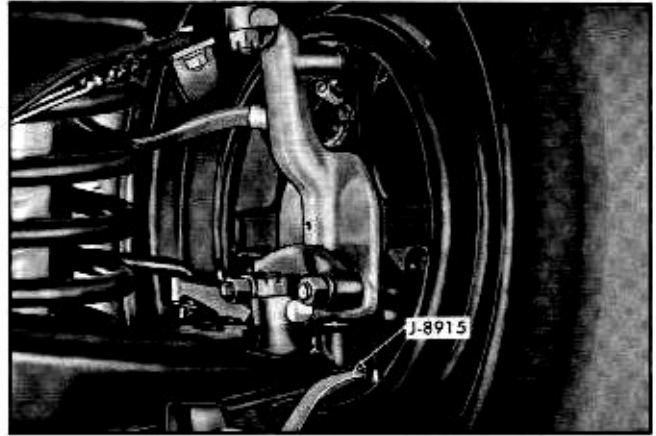

Fig. 5-3 Expanding Adjusting Screw
- a. Insert brake adjusting tool J-8915 in slot of the brake backing plate until it engages star wheel on adjusting screw and move end of tool upward to expand brake shoe (Fig. 5-3).